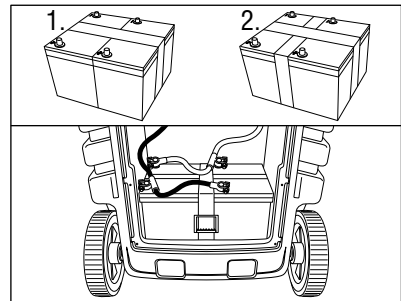

Fig. 2
- Remove the lower back panel. (Refer to Fig. 2)
- Using insulated tools, reinstall the back panel. (Fig. 2)